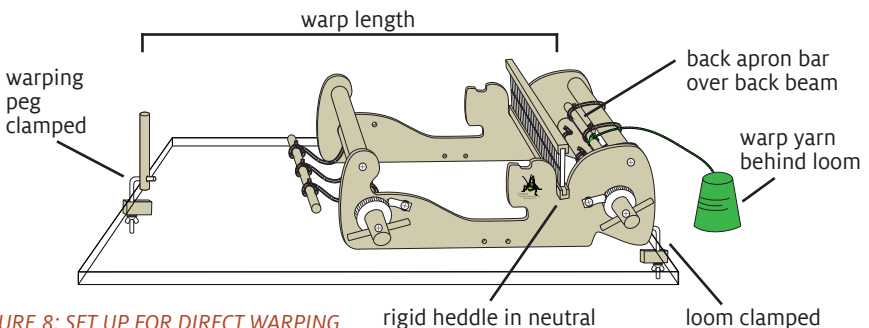

FIGURE 8: SET UP FOR DIRECT WARPING
NOTE: Illustrations here show the loom and warping peg clamped to a clear work surface to make all the parts visible. Here the loom and peg are positioned for a very short warp. For each weaving project, determine your warp length. Then measure from the back apron rod (Figure 8) towards the front of the loom; place the warping peg at the same distance as your warp length. You can clamp the warping peg to a separate work surface.
1. Set up your loom as shown in Figure 8 on page 6:
2. Set up the warping peg: Clamp the warping peg in front of the loom, as far away from the back apron bar as your desired warp length (Figure 8).
4. Set up the warp yarn: tie the yarn to the back apron bar in line with the point where you will begin threading. Set the skein or cone behind the loom, so the yarn comes up over the back beam (Figure 8).
Wind the weft yarn around a stick shuttle in a figure 8 (Figure 18). You can wind along one edge or both edges of the shuttle.